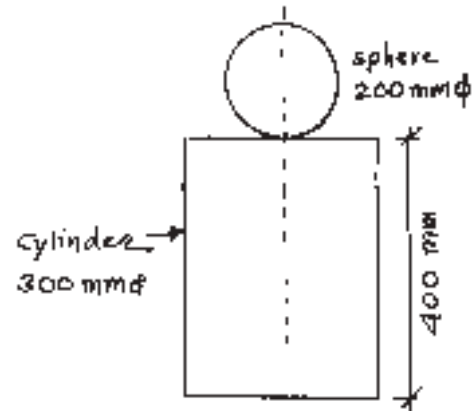

Fig. No. 9
- c) Locate the center of gravity for the solid as shown in Figure No. 9